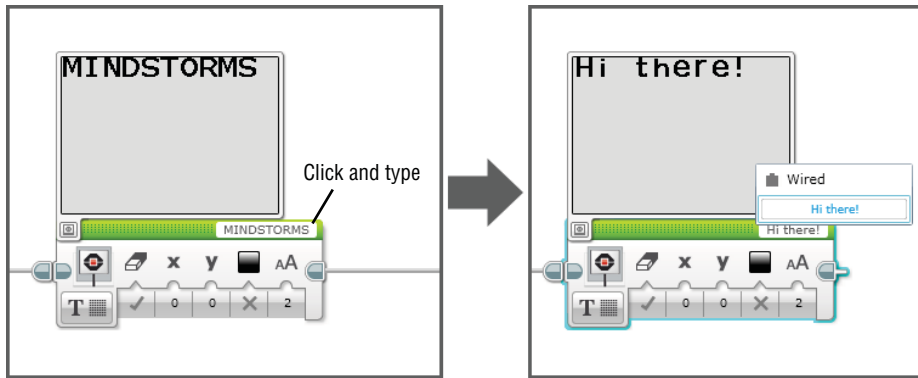

Figure 5-8: Type into the text box and see the content change in the Display Preview.
3. Click the box and type in something new. The text on the preview should change along with the new input (see Figure 5-8). You can type a long sentence, but only the part that fits in the screen will be shown, so be concise.